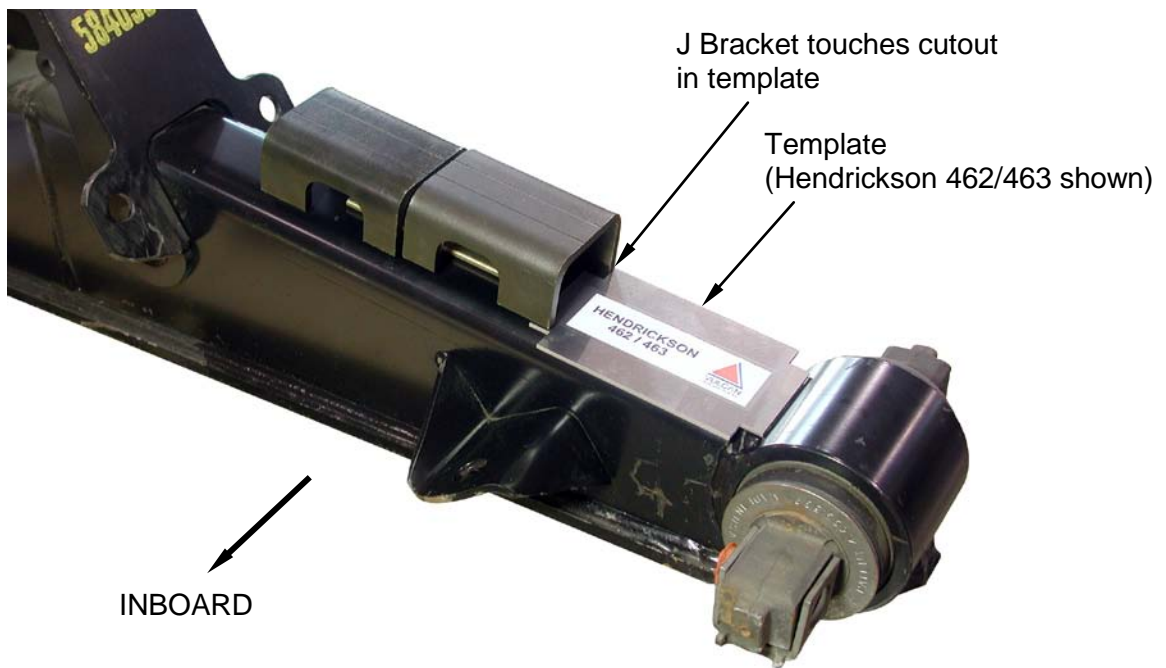

Figure 6
2. Remove the appropriate wheels on the truck to provide working access to the equalizing beam. Position the J brackets on top of the suspension beam, as shown in Figure 6 and 7. The circular weld holes go on the outboard side of the beam.